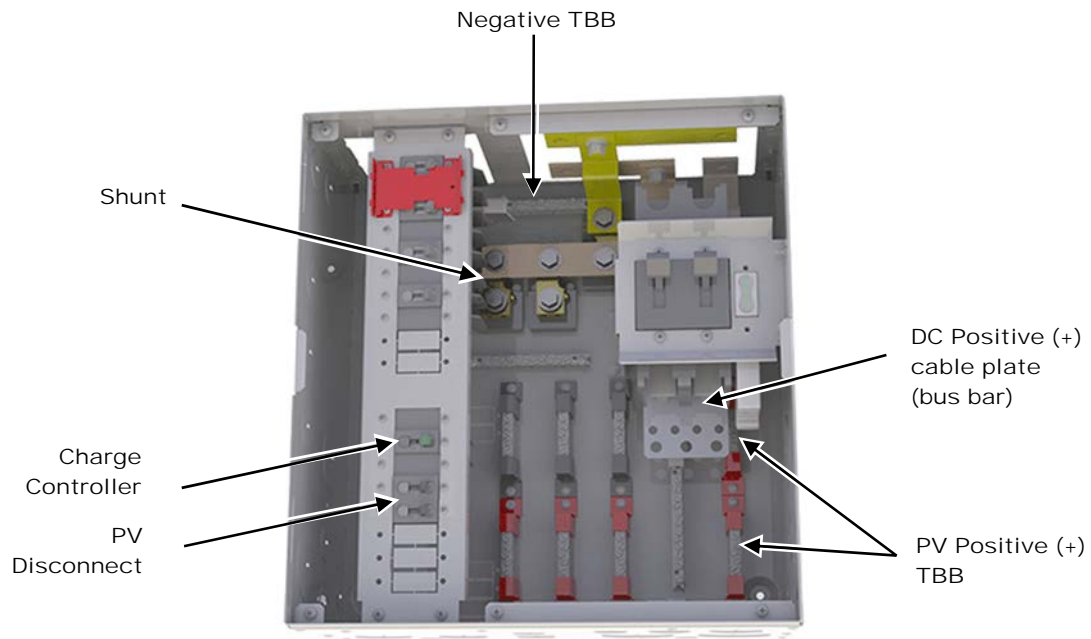

Figure 31 PV Connections in the GSLC
1. Connect the PV positive wire to the GSLC's PV positive (+) TBB (see Figure 31).
3. Install a wire from the PV TBB to the PV disconnect circuit breaker (see Figure 31).